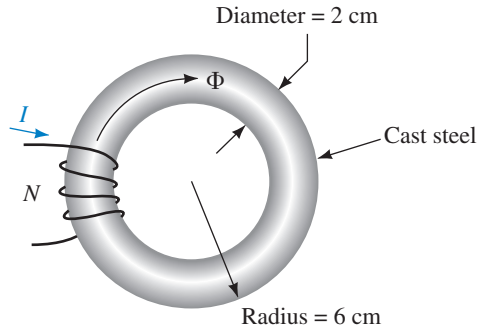

FIGURE 12-54
27. If $NI = 644 \text{ At}$ for the cast steel core of Figure 12-54, find the flux, Φ .
28. A gap $\ell = 0.004 \text{ m}$ is cut in the core of Figure 12-54. Everything else remains the same. Find the flux, Φ .